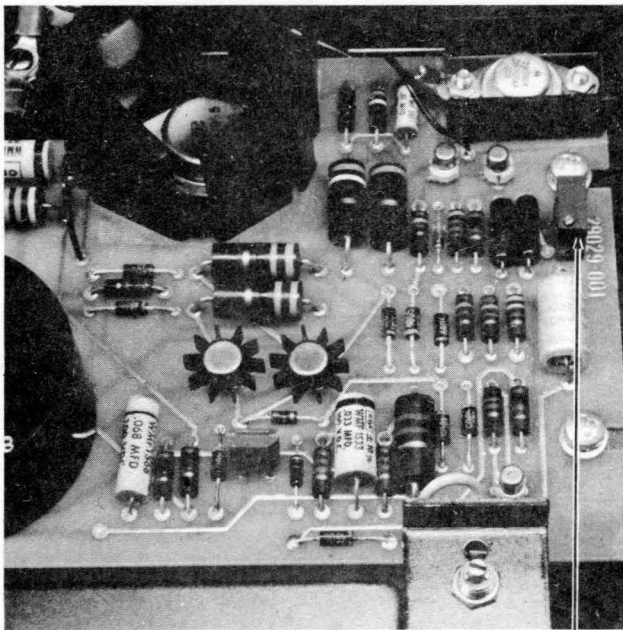

Figure 5-2 HVPS Adjustments
- For greater density, adjust R9 clockwise approximately one half to one full turn. (Accessible thru inner-most hole in panel below font drum. See Figure 5-2).